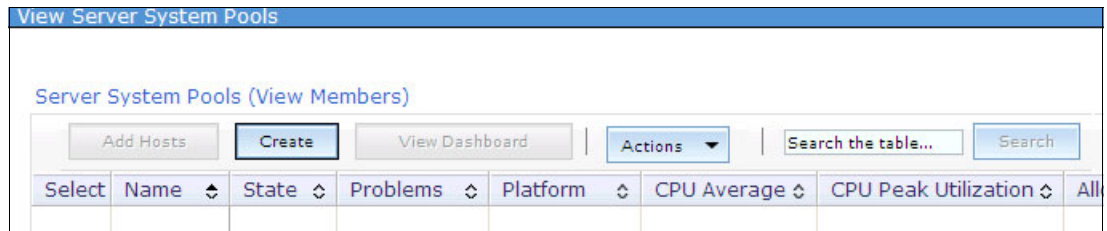

Figure 9-93 Server system pool member list
2. The View Server System Pools window opens as shown in Figure 9-93. Click **Create**.